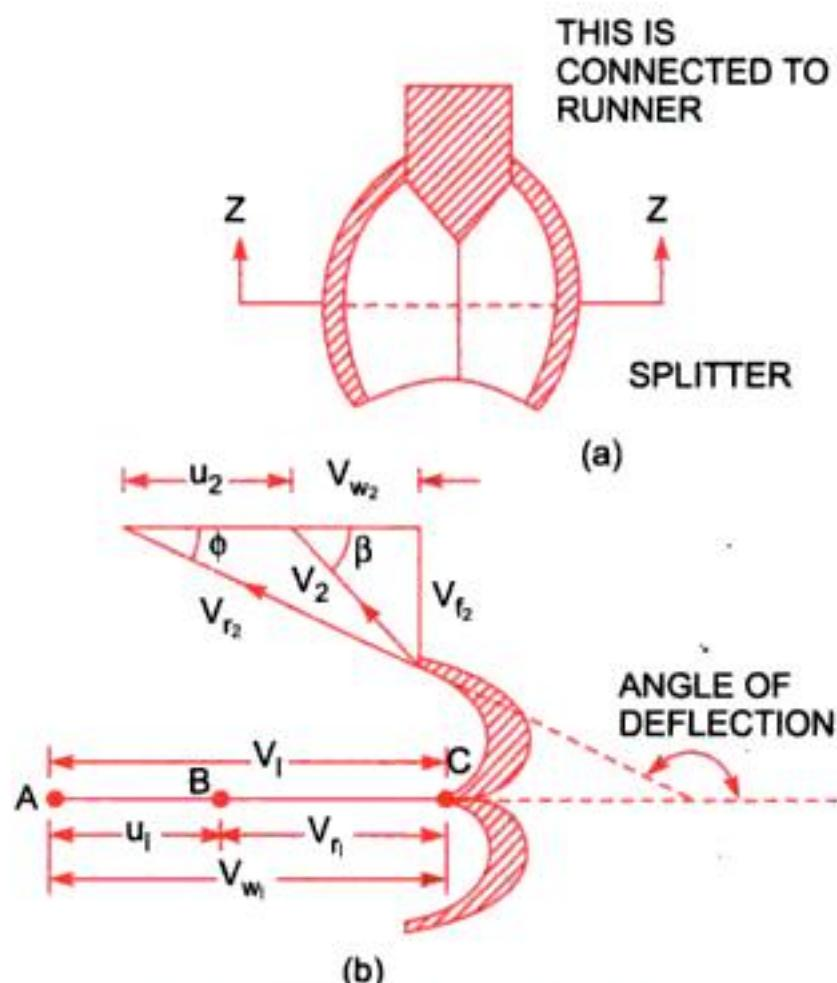

Fig. 18.5 Shape of bucket.
18.6.1 Velocity Triangles and Work done for Pelton Wheel. Fig. 18.5 shows the shape of the vanes or buckets of the Pelton wheel. The jet of water from the nozzle strikes the bucket at the splitter, which splits up the jet into two parts. These parts of the jet, glides over the inner surfaces and comes out at the outer edge. Fig. 18.5 (b) shows the section of the bucket at z-z. The splitter is the inlet tip and outer edge of the bucket is the outlet tip of the bucket. The inlet velocity triangle is drawn at the splitter and outlet velocity triangle is drawn at the outer edge of the bucket, by the same method as explained in Chapter 17.